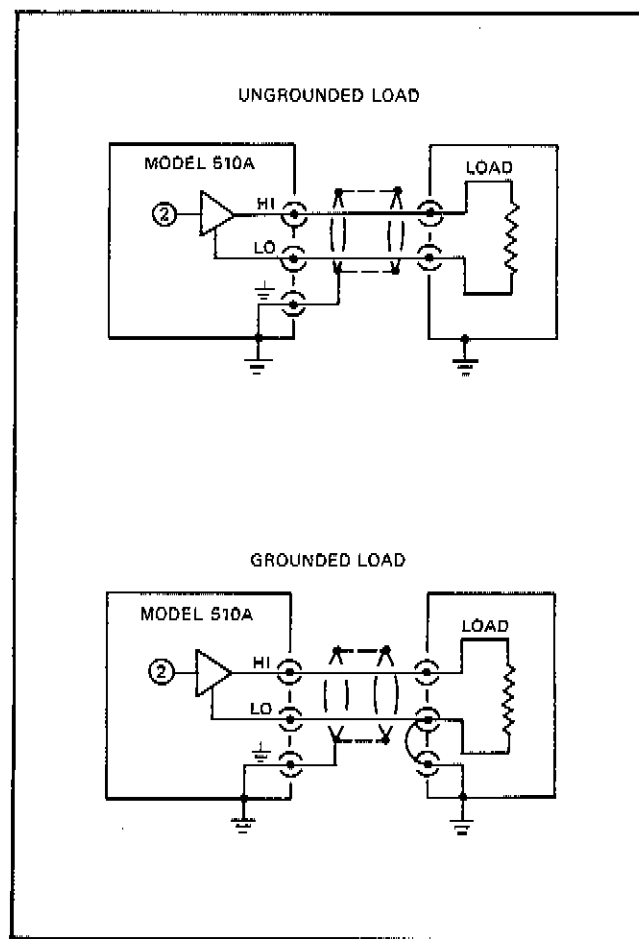

Figure 2-2. LOAD CONNECTIONS
- b. Shielded, twisted pair load cables should be used. Typical load connections are shown in Figure 2-2.